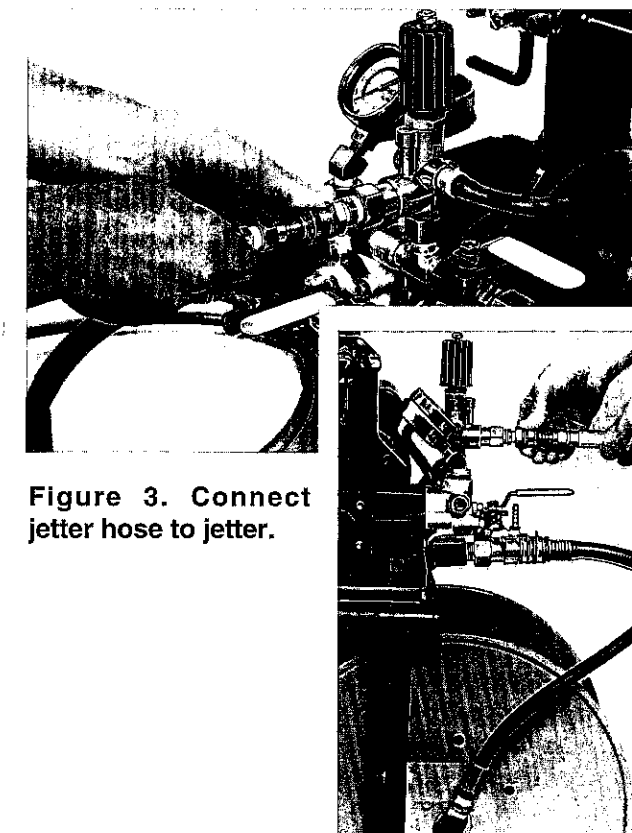

Figure 3. Connect jetter hose to jetter.
4. Connect a jetter hose to the jetter's outlet port. (Figure 3)
- 4a. If you are using a hose mounted on the hose reel, connect the reel's supply line to the outlet port. (See inset, Figure 3)